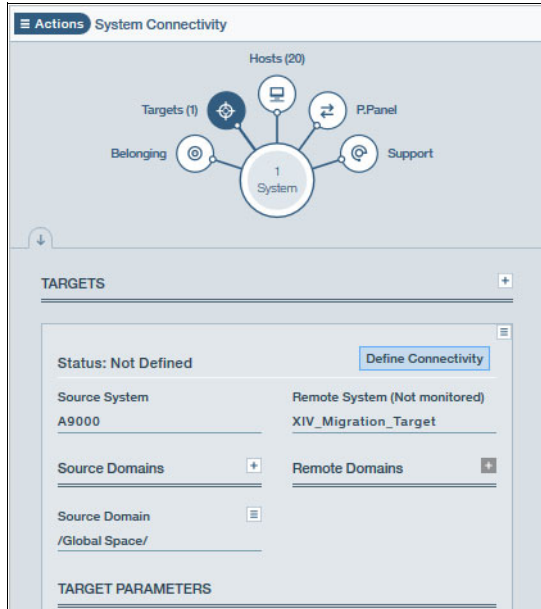

Figure 4-20 Defining connectivity in IBM FlashSystem A9000
4. After the target is defined, the target appears in the System Connectivity display, as shown in Figure 4-20.